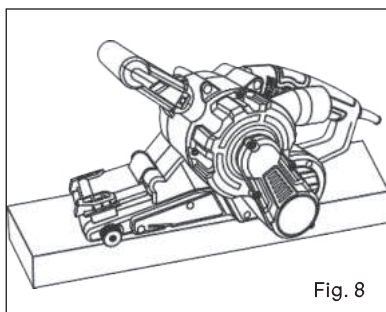

Fig. 8
2. Carefully lower the tool until the sanding belt contacts the workpiece (Fig. 8).